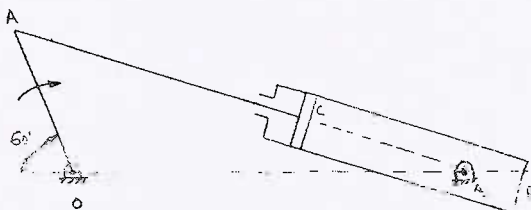

Fig. Q3
- In the mechanism shown in Fig. Q3 line $OA = 320$ mm, $AC = 680$ mm and $OQ = 650$ mm. Determine (i) the angular velocity of the cylinder. (ii) the sliding velocity of the plunger. (iii) the absolute velocity of the plunger. when the crank QA rotates at 20 rad/sec CW. (20 Marks)